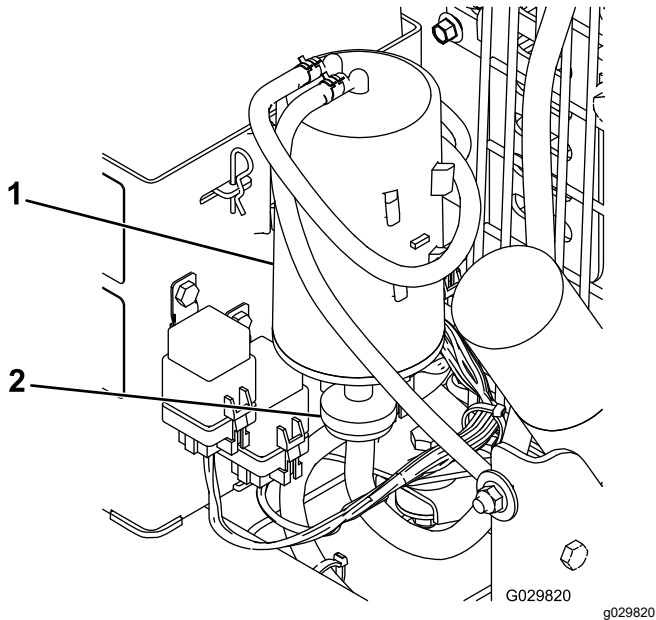

Figure 23
2. Remove and discard the carbon canister air filter, but retain the hoses (Figure 23).